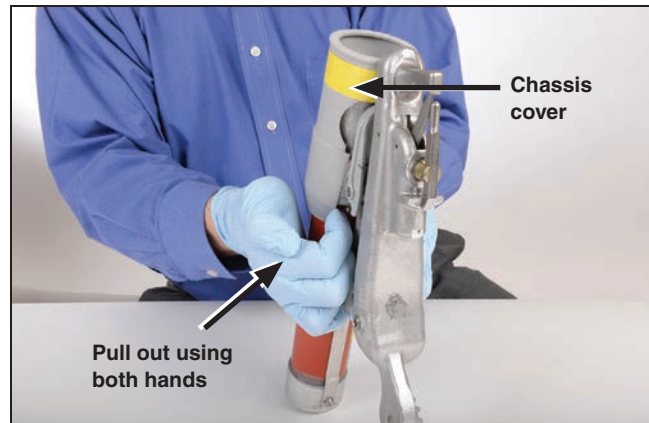

Figure 14. Remove the chassis cover.
- STEP 11.** Remove the chassis cover by slightly prying the cover equally on both sides and sliding off the chassis. See Figure 14.